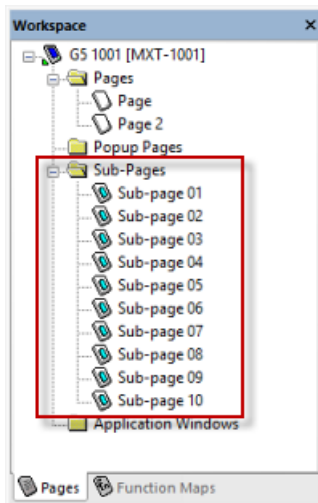

FIG. 107 Workspace window - Sub-pages 01 - 10 added to the project
6. Repeat steps 1 - 5 to create additional Sub-Pages, named "Sub-Page 02" - "Sub-Page 10" (FIG. 107):